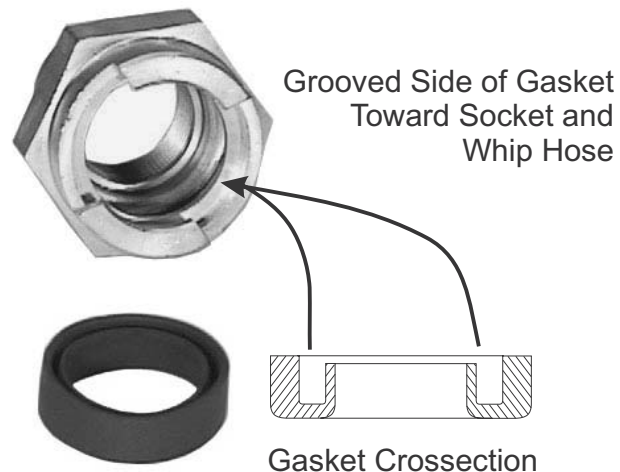

Figure 11-4. Install Q.D. Gasket.
2. If the old Q.D. Gasket (20) was removed, insert a new one in the Q.D. Socket (19).
- a. With the grooved face of the Gasket (20) toward the Q.D. Socket (19) and Whip Hose (18), insert the new Gasket (20) into the Socket (19). Refer to Figure 11-4.
- b. Check that the gasket seats properly as shown in Figure 11-4.